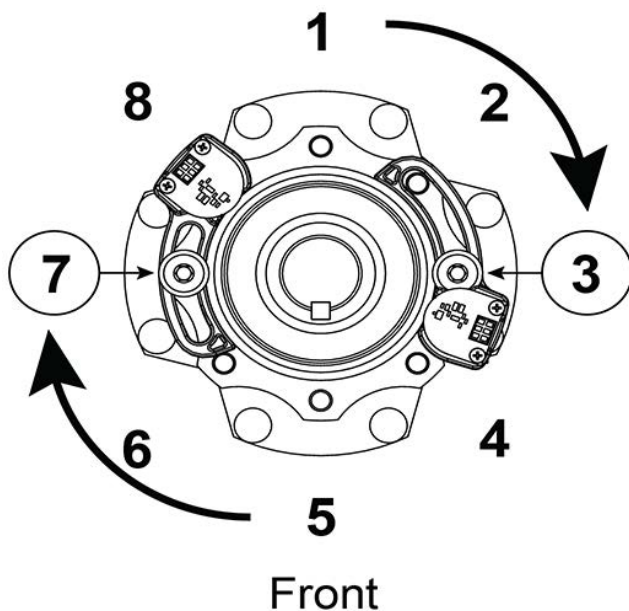

Figure 19. RIGHT-HAND Installation
1. Loosen the taper clamp bolt with the taper clamp wrench to allow the gate and arm assembly to rotate freely (Figure 19).